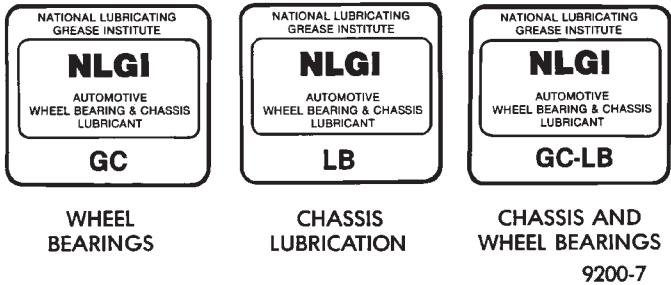

Fig. 3 NLGI Symbol
- National Lubricating Grease Institute (NLGI) (Fig. 3)
Lubricating grease is rated for quality and usage by the NLGI. All approved products have the NLGI symbol (Fig. 3) on the label. At the bottom NLGI symbol is the usage and quality identification letters. Wheel bearing lubricant is identified by the letter "G". Chassis lubricant is identified by the latter "L". The letter following the usage letter indicates the quality of the lubricant. The following symbols indicate the highest quality.